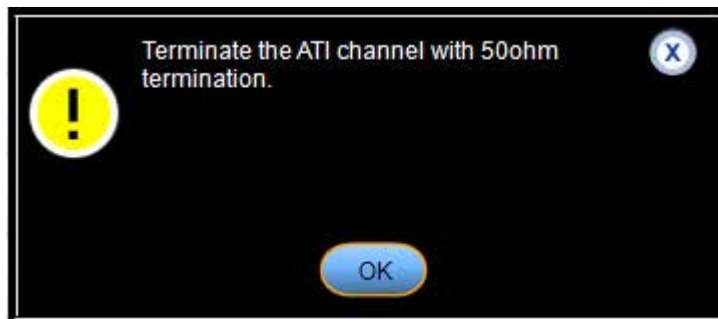

Figure 15: Pop-up for 50 Ohm termination for channel
18. If any ATI channels are selected, a pop-up will come, as shown in Figure 15 on page 23. Ensure 50 Ω termination to the channel and click **OK**.